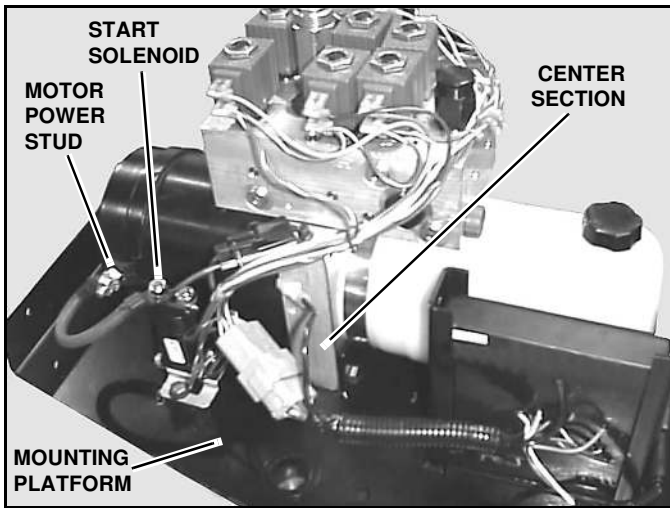

Figure 2-4
4. Remove the red power lead from the motor power stud. Remove the black wire of the power harness and the black ground wire to the control receiver from the 3/8" screw in the center section of the power unit. Disconnect the 12-pin connector of the power unit valve wire harness. Remove the red/black wire and the red wire of the power harness from the 5/16" terminal of the start solenoid. Remove the red/white wire and the brown wire from the #10 terminals of the start solenoid. Mark wires and terminal locations to aid in re-connecting the wires after the oil change. (See Figure 2-4)
6. Remove the two 5/16" cap screws that fasten the center section of the power unit to the pump platform. (See Figure 2-4)